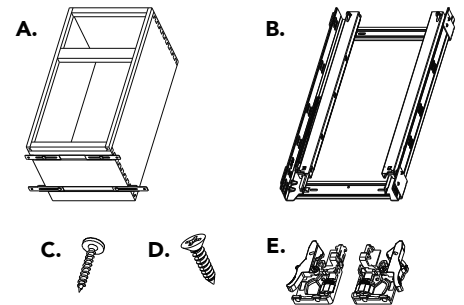

FIG. A-1
Fasten slide triggers to bottom of frame using (6) 6 x 1/2" flat head screws (See Fig. A-1 and A-2).